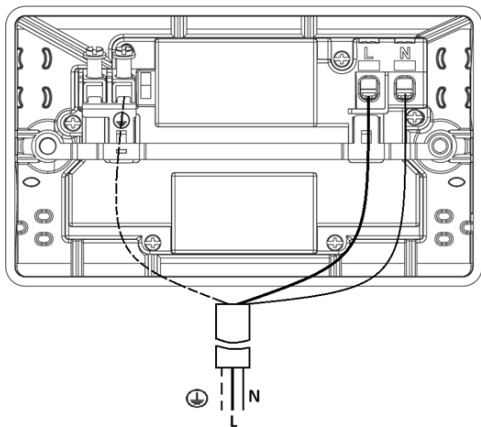

Fig. 3
- Replace the gasket onto the backbox, then wire as shown in Fig. 3 ensuring that correct polarity is observed: L - Live (brown), E - Earth (green/yellow), N - Neutral (blue)